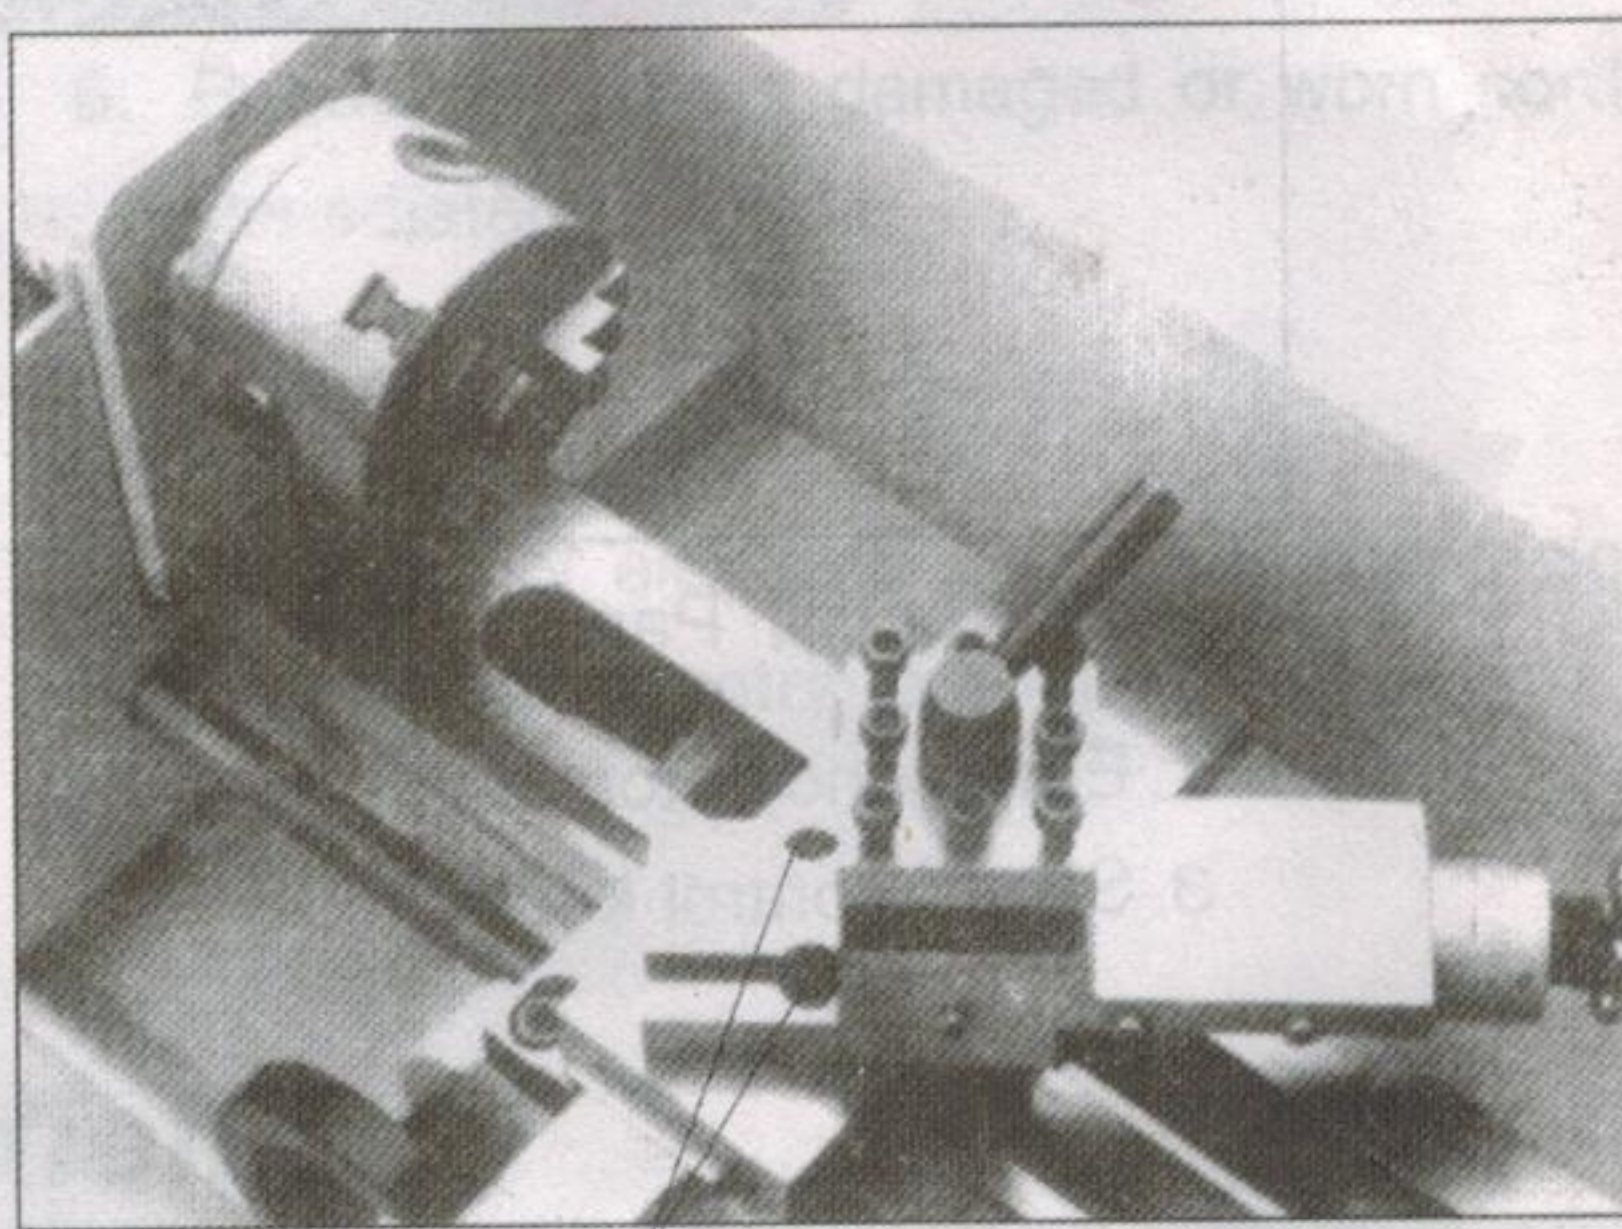

Fig. 8 Compound Rest Adjustment
Loosen the two screws as shown in (A) of Fig. 8. After you have obtained the angle you desire, please do not forget to tighten them.